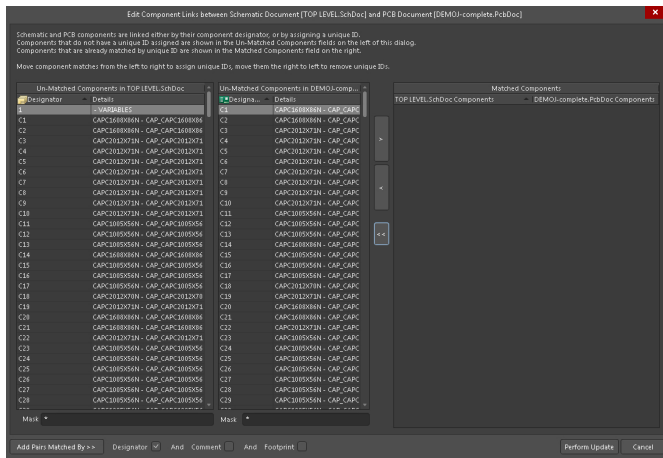

Fig. C.1 - The *Edit Component Links* dialog (*Project » Component Links*)
1. Open the `DemoJ-complete.PcbDoc` file and run the **Project » Component Links** command – the *Edit Component Links* dialog appears (Fig C.1).